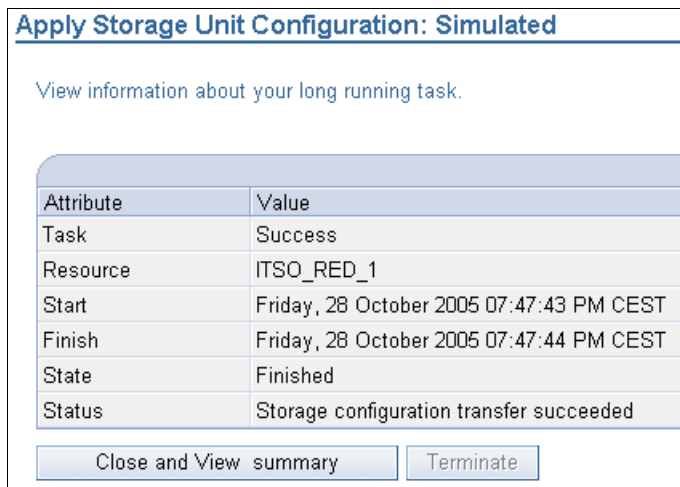

Figure 12-17 Apply a simulated configuration: Progress
10. You will initially see that the configuration file is being transferred to the target Storage Unit, as shown in Figure 12-17